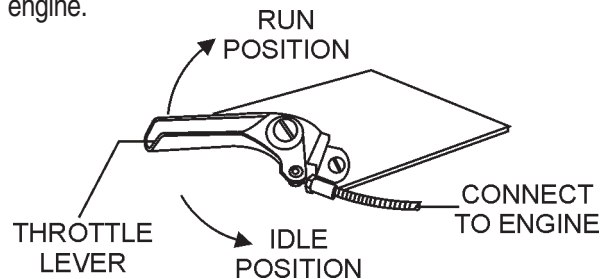

Figure 10. Throttle Lever
- Set the **throttle lever** (Figure 10) to the idle position by pushing it away from the operator's position towards the engine.